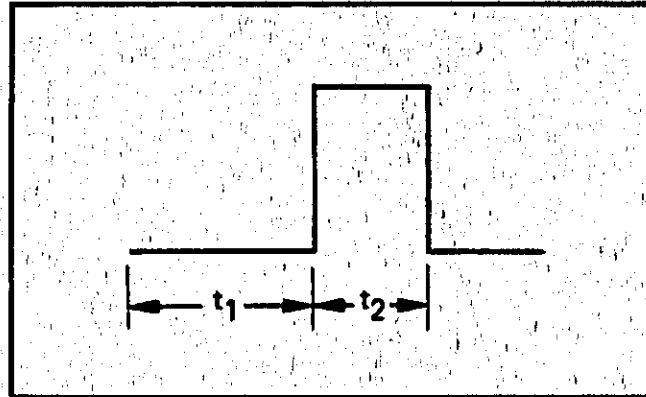

Figure 5-4. Oscilloscope Display of Waveform Symmetry
- f. Adjust oscilloscope for display as shown in Figure 5-4.